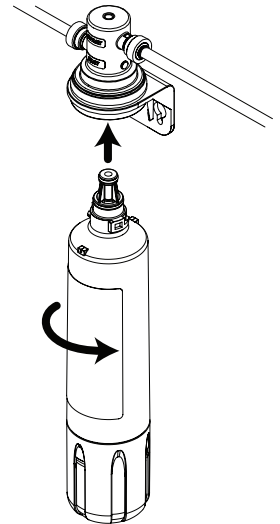

Figure 4
6. Referring to the "Using Push-In Fittings" section, insert the blue tubing coming from the 1/4" Feed Water Adapter into the INLET fitting as shown in Figure 4.
7. After installing the faucet as detailed below, insert blue tubing to faucet into OUTLET fittings, as shown in Figure 4.
8. Align tabs of filter cartridge with head assembly and insert filter cartridge into head assembly. Turn filter cartridge counter clockwise until it stops (about 1/4 turn). The filter is now installed. (See Figure 4).
9. Turn water supply back on from the shutoff valve on cold water line. This will pressurize the filter system and begin sending filtered water to the faucet. Look for leaks. **If leaks occur, see Troubleshooting Guide. Flush the filter for four (4) gallons (approx. 5 minutes) to remove any trapped air.**